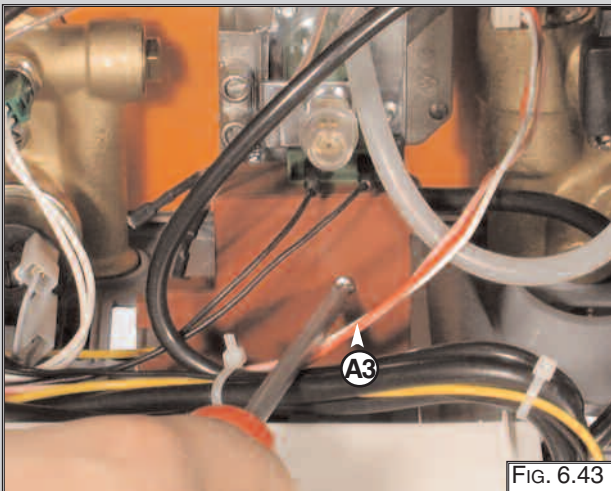

FIG. 6.43
2. Remove the screw "A3" (FIG. 6.43);